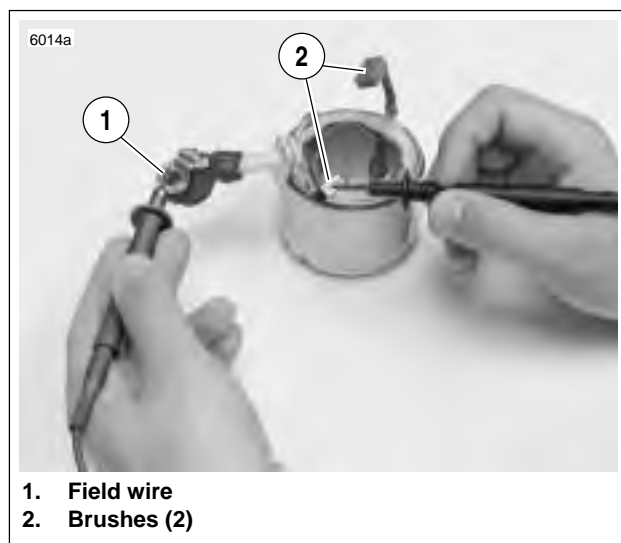

Figure 5-24. Open Field Test
13. See Figure 5-24. Check for OPEN FIELD COILS with an ohmmeter or continuity tester.
- Touch one probe to the field wire (1).
- Touch the other probe to each of the brushes attached to the field coil(s) (2).